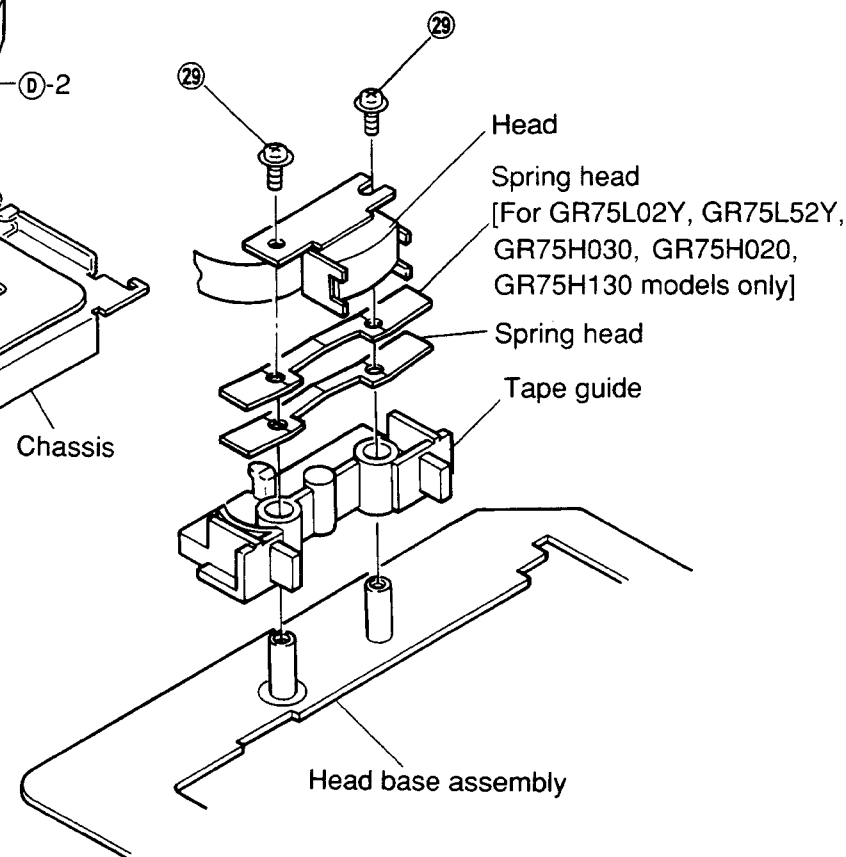

Figure 21
- (1) After removing the pinch roller spring, remove two screws ㉑ as shown in Figure 21.